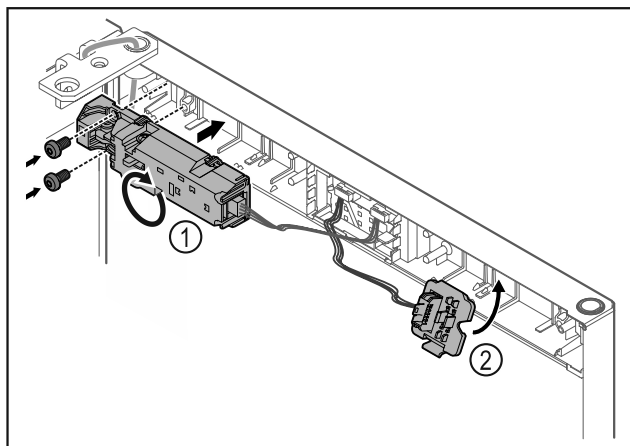

Fig. 24
- Turn the remote lock Fig. 24 (1) by 180° and fasten it on the opposite side.
- Snap in the plug holder Fig. 24 (2) on the opposite side.